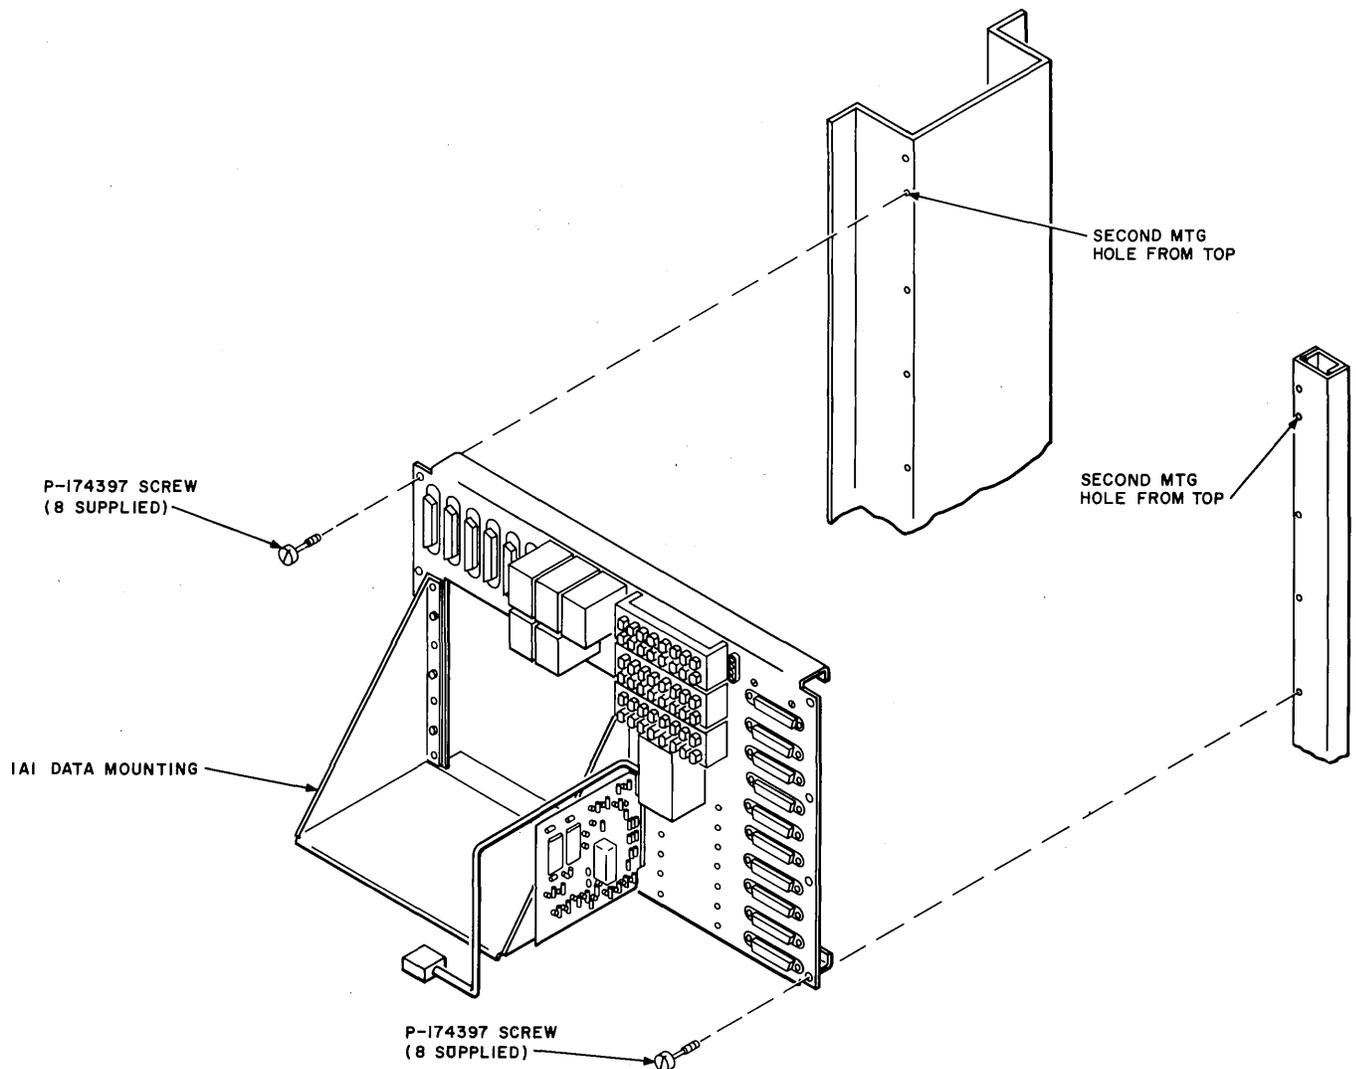

Fig. 7—Details for Mounting IA1 or IA2 Data Mounting
3.03 The 1A1 Data Mounting is installed at the top rear of the cabinet. Installation of the data mounting should be in accordance with Fig. 7.
3.04 The 1A2 Data Mounting is installed at the top front of the cabinet. Installation of the 1A2 Data Mounting is the same as for the 1A1 Data Mounting (Fig. 7).
3.05 The 1A2 Data Mounting is mounted at the top rear of the **second** cabinet when the 103E-type Data Station is fully equipped with 40 data sets and 40 Data Auxiliary Sets 801-type. If a 103E-type Data Station is partially equipped (eg, 24 data sets and 6 data auxiliary sets), consideration should be given to the possible expansion of the 103E-type Data Station to a fully equipped station. If possible expansion is very remote, the 1A2 Data Mounting should be mounted at the top front of the cabinet containing the 1A1 Data Mounting. Installation of the 1A2 Data Mounting is the same as for the 1A1 Data Mounting (Fig. 7).